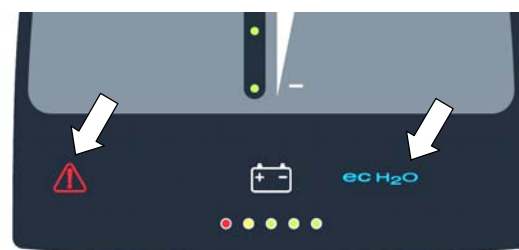

FIG. 36
5. If a machine fault is detected during operation, the service indicator will light up and begin flashing (Figure 36). See SERVICE INDICATOR CODES.